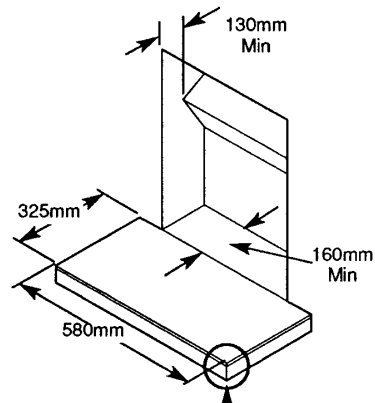

Fig. 7
1. The fire is intended to be hearth mounted only. The hearth must be of a non-combustible material at least 13mm ($\frac{1}{2}$ in) thick and measuring at least 325mm ($12\frac{7}{8}$ in) deep by 580mm ($22\frac{27}{32}$ in) wide. It must be fitted central to the fireplace opening. The top surface of the hearth should be a minimum of 50mm (2 in) above floor level (Fig. 7).